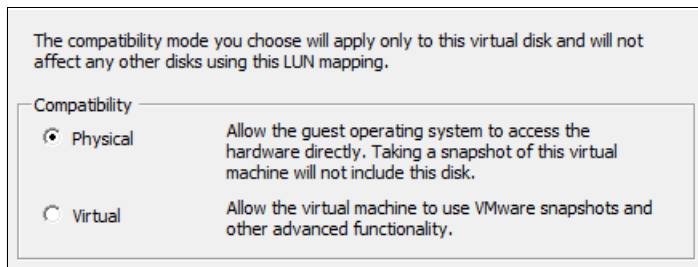

Figure 7-35 Compatibility mode for RDM
7. Select Compatibility Mode from the available options as shown in Figure 7-35.